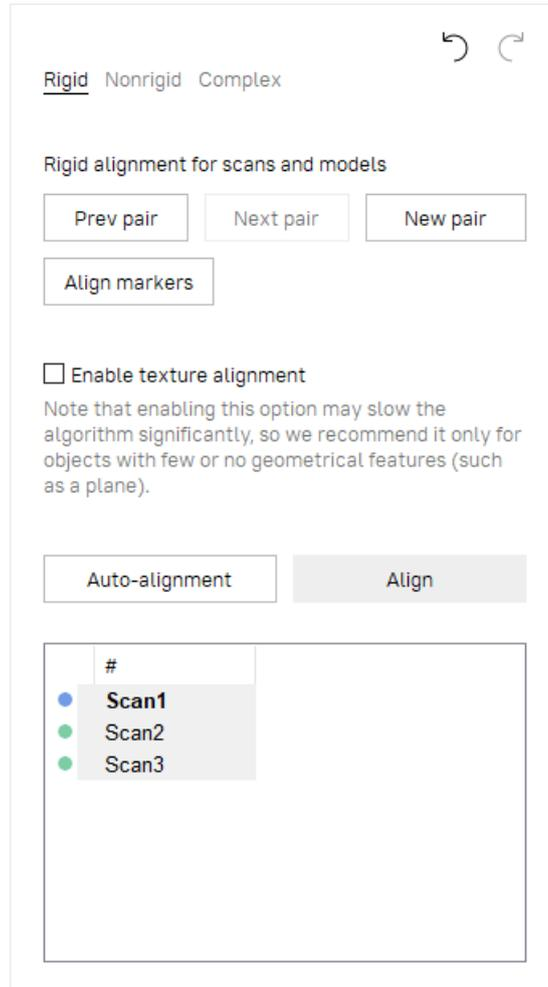

Figure 80: Align panel: Rigid tab.
1. Make sure the *Rigid* tab is selected in the *Align* panel (see Figure 80). The tool will automatically select all scans. Clear unnecessary selections by using the `Ctrl` key (see *Alignment*).
1. Make sure the *Rigid* tab is selected (see Figure 80).